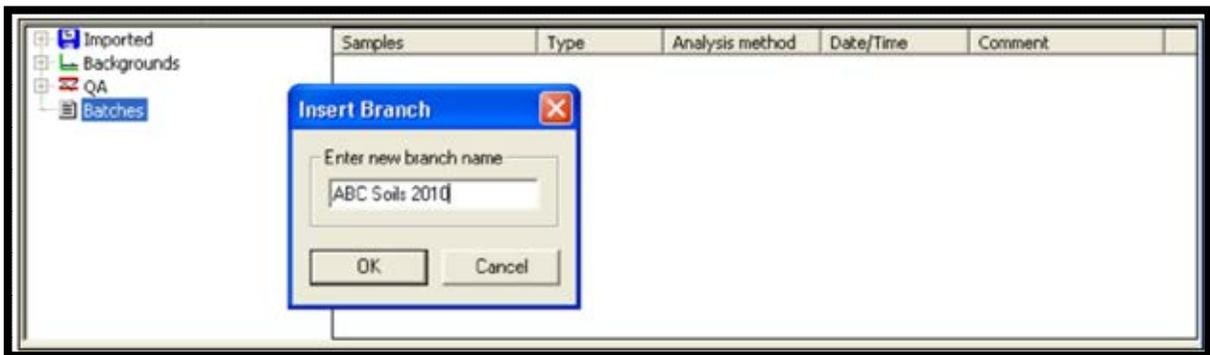

Figure 170. Insert Branch Dialog
- 2) Enter *ABC Soils 2010* in the Insert Branch dialog (Figure 170) and click **OK** to return to the main screen.